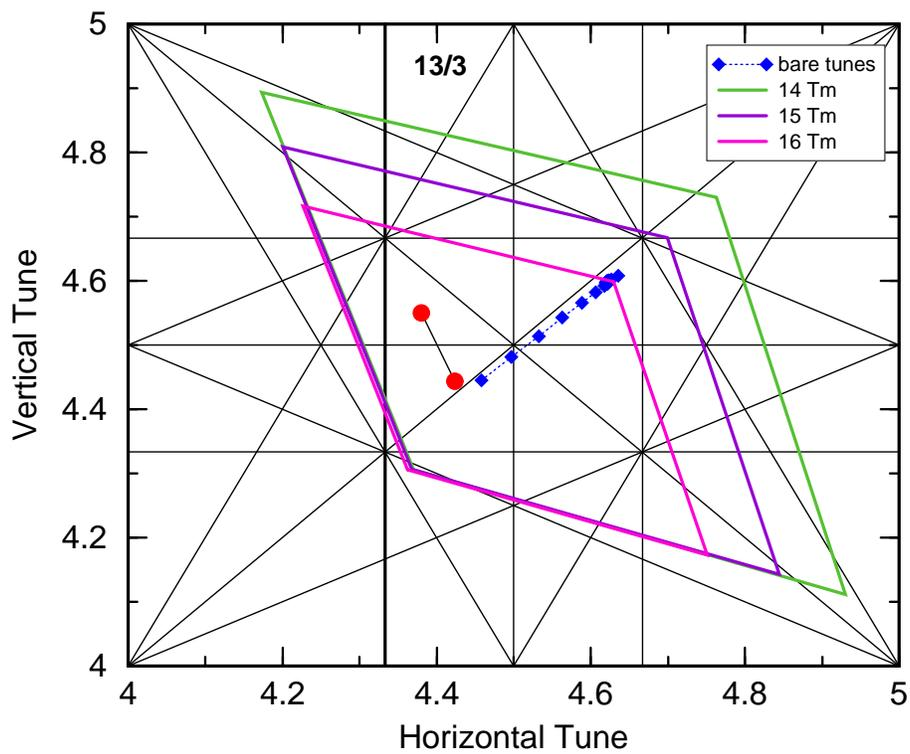

Figure 1: Tune Manipulation at Injection
2. Set uncoupled tunes $Q_H = Q_0 - 0.01$ and $Q_V = Q_0 + 0.01$, where $Q_0 = 4 + 13/30 = 4.433333$. This is the red dot near the $Q_H - Q_V = 0$ resonance line in Figure 1.
4. After accumulating beam with the coupling, the uncoupled tunes must be moved rapidly to the second red dot shown in Figure 1. Here $Q_H = 4.38$ and $Q_V = 4.55$. This requires correcting the $Q_V = 4.5$ resonance and possibly the $Q_H + Q_V = 9$ and $3Q_H = 13$ resonances.
1. Proposed operating point during acceleration is $Q_H = 4.38$ and $Q_V = 4.55$ as indicated by the red dot in Figure 1.
4. The immediate plan is to see whether or not we can inject and accelerate protons with the tunes at the two points indicated by red dots in Figure 1. This will be done as a study at low intensity on User 4.